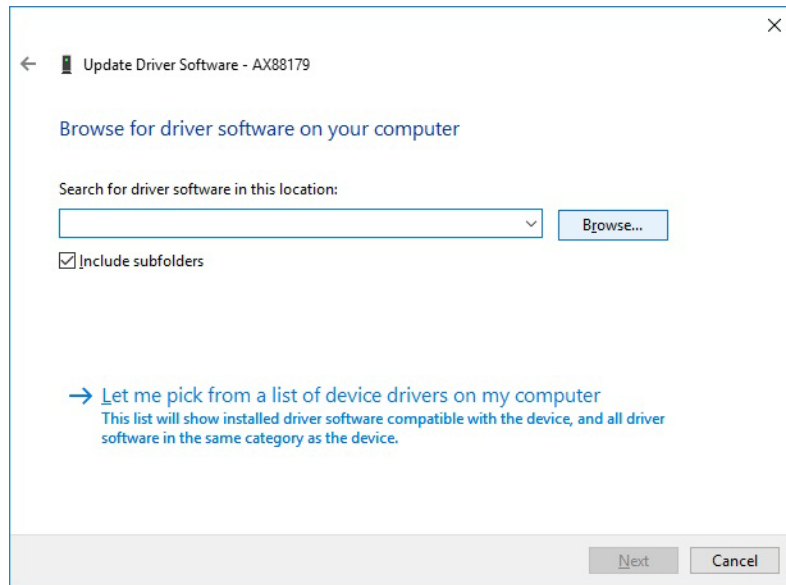

Figure 11. Browse for Driver Software Location
5. Select the second option in the Update Driver Software Window - “Browse my computer for driver software”. The Browse option is displayed. See Figure 11.